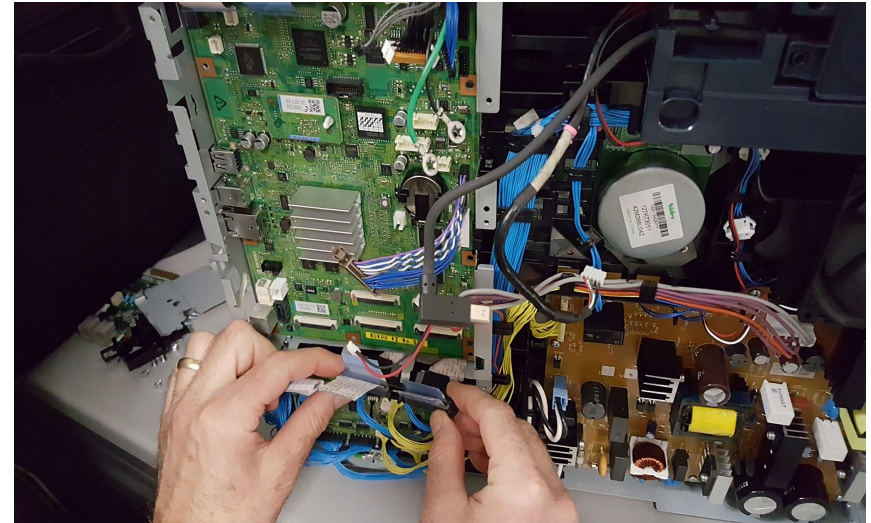

Figure 3 Disconnect all Cables
- a. Disconnect all Cables, carefully move the harnesses out of the way and remove the ESS PWB from the frame leaving all harnesses and guides in-place, Figure 3.